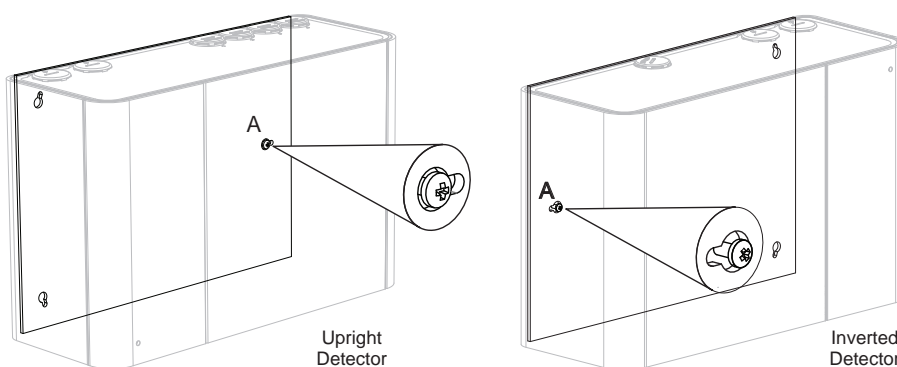

Figure 4-27: Position detector over screw
- Position the right keyhole on the rear of the detector over the head of the right screw (A) (Figure 4-27).